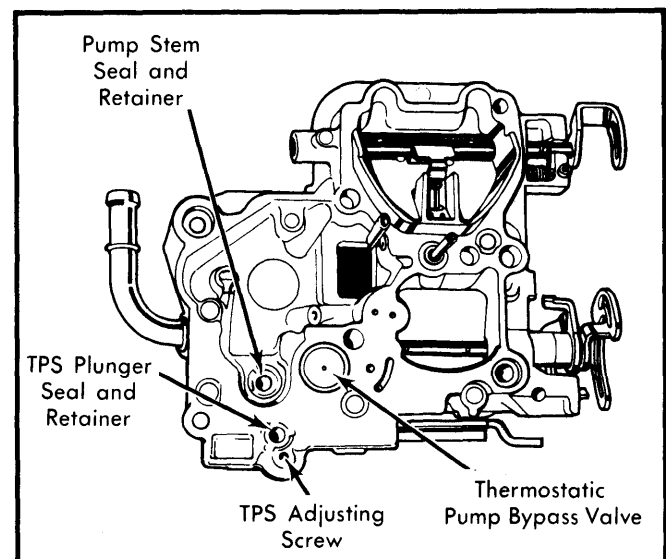

Fig. 6 TPS Adjustment Screw Location for 1.8L & 2.0L Engine
1) Using a $\frac{5}{64}$ " drill bit, drill a hole in the steel plug covering TPS adjustment screw. Do not drill into adjusting screw head. Pull plug out of bore with a small slide hammer puller. See Fig. 6.